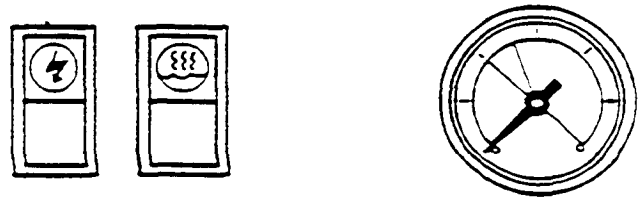

Figure 1. Steam Generator Controls
The steam generator controls are located on the front face of the steamer base unit. The switches are to the left of the pressure gage, as illustrated in Figure 1. Most Cleveland Range Convection Steamers have steam generator built into the base unit which supplies steam to the cooking compartments. However, an external steam supply may also be used. Units with a built-in boiler have both the **POWER rocker switch** and the **STEAM momentary switch** next to the pressure gage. Units with an external steam supply have the **POWER rocker switch** only. They do not have the **STEAM** momentary switch.
- a- Press the ON end of the POWER on-off rocker switch located next 10 the steam pressure gage (Figure 1). The red indicator light in the POWER rocker switch turns on and the steam generator begins to fill with water. This takes about 5 minutes